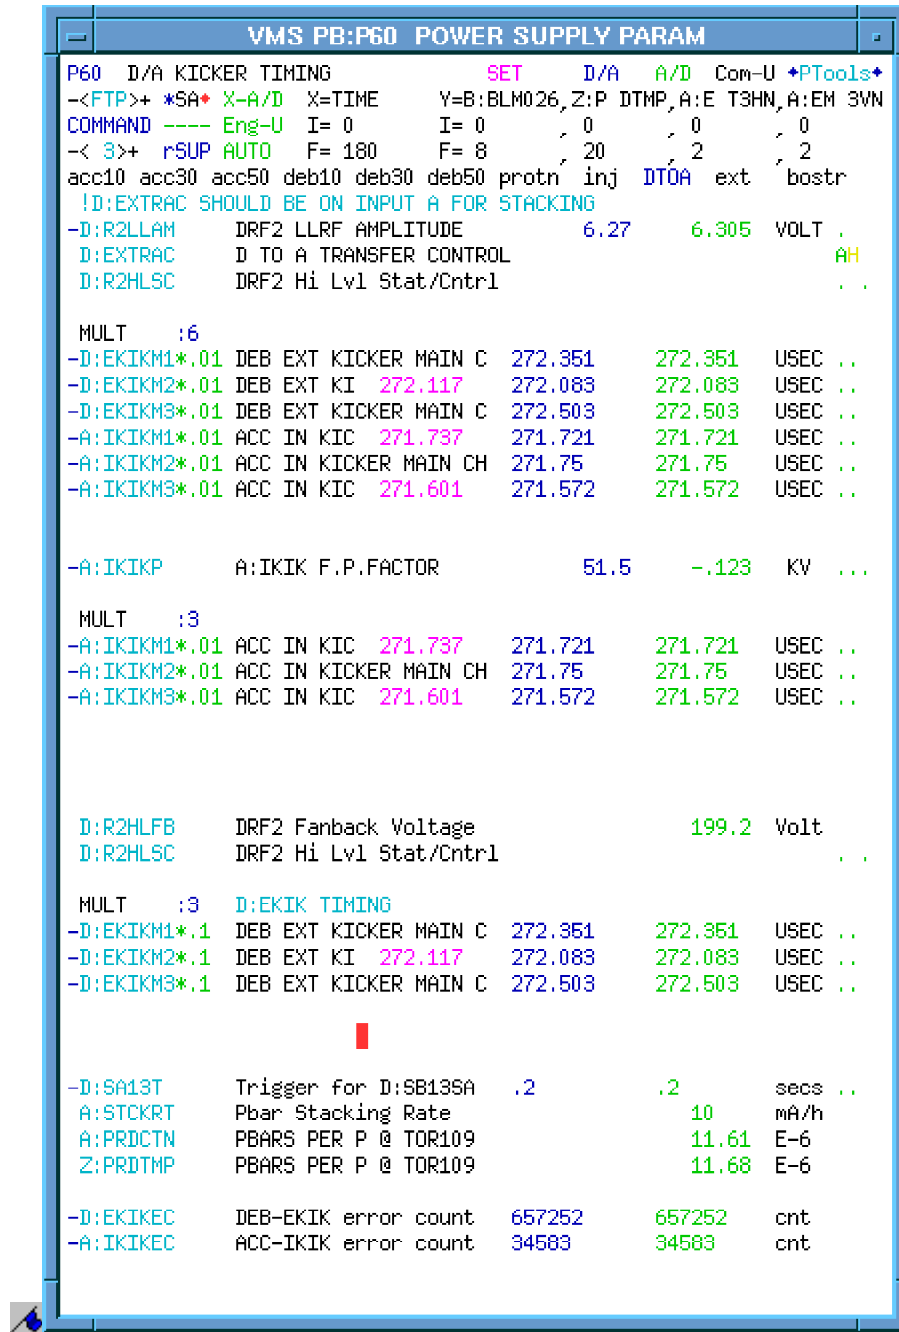

Figure 25:
3. Open P60 DTOA < 3> as shown in Figure 25. This page contains two MULT:3s and one MULT:6 that we will use later in this procedure.
10. From P60 DTOA < 3>, as shown in Figure 25, slowly knob the D:EIKM% (% = 1, 2, or 3) MULT:3 to optimize the kicker with respect to the DRF2 gap. Watch the FTP as well as stackrate and production.
17. From P60 DTOA < 3>, as shown in Figure 25, slowly knob the A:IKIKM% (% = 1, 2, or 3) MULT:3 to optimize the A:IKIK kicker with respect to the D:EKIK kicker timing. Watch the FTP as well as stackrate and production.
18. From P60 DTOA < 3>, as shown in Figure 25, slowly knob the D:EKIKM% (% = 1, 2, or 3) + A:IKIKM% (% = 1, 2, or 3) MULT:6 to optimize both kickers in respect to the DRF2 gap. Watch the FTP as well as stackrate and production.